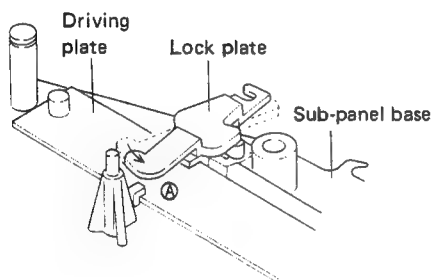

Fig. 12-13 Cam assembly attachment
The cam assembly is attached by letting the lock plate go in the direction ① as shown in figure 12-13.